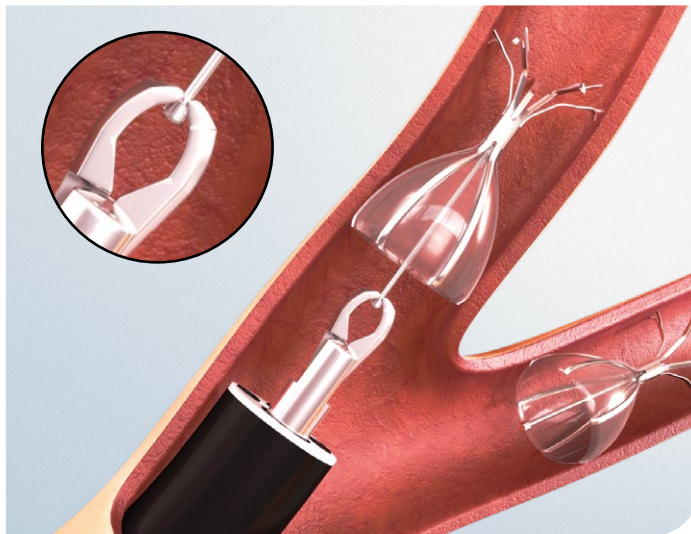

Figure 1: Spiration Valve Removal with Forceps
2. Grasp the removal rod shaft or removal rod tip with the appropriate forceps and gently pull the valve until it is dislodged from the airway wall. Use care to make sure that the removal rod does not get caught in the fenestration of the forceps when removing the valve (see Figure 1).